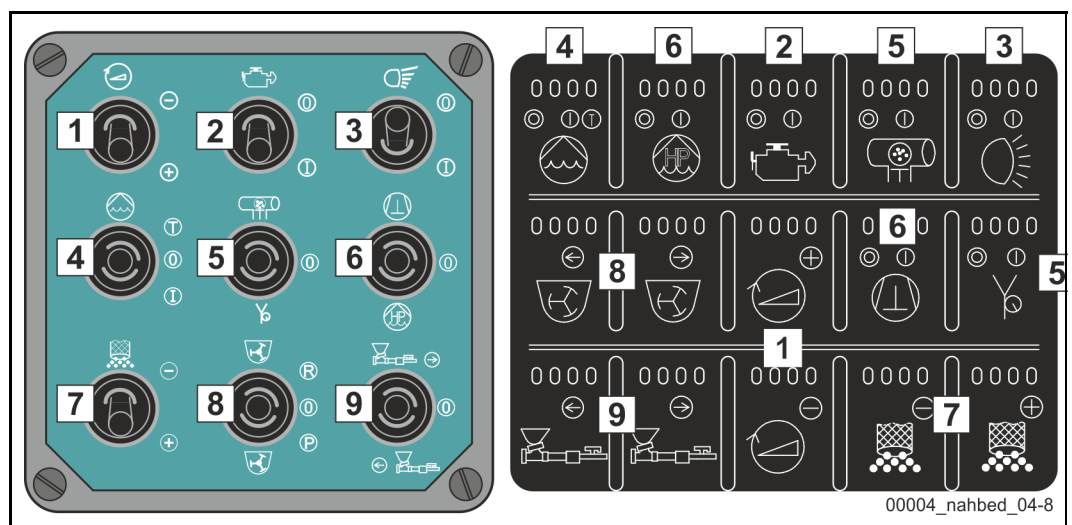

Fig. 424 Local control keypad
Pressing down the switch (6)  on the local control unit (**Fig. 424**) switches a directional valve, which directs the oil flow to the hydraulic motor of the high-pressure pump, and the pump starts pumping immediately.